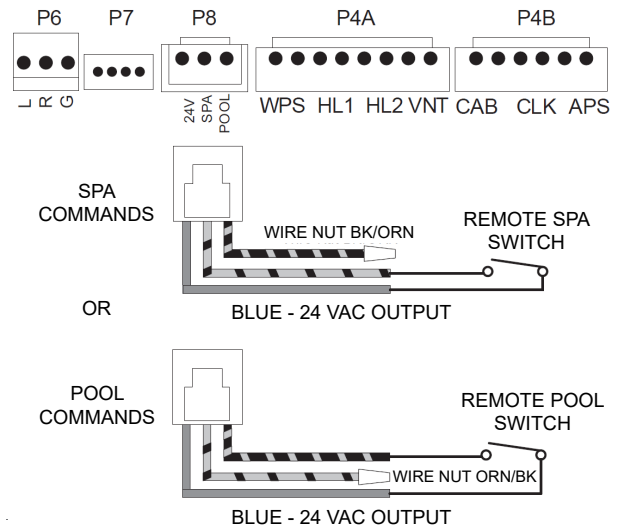

Figure 57. 2-Wire Remote Harness Installation
5. On the "Remote Interface Harness", connect the BLUE wire to one side of the "REMOTE" switch and connect the other side to either the ORANGE/BLACK wire for "SPA" operation or the BLACK/ORANGE wire for "POOL" operation. See **Figure 57**.
7. Install the "3-wire Remote Control Harness" to the P8 connector and turn power "ON" to the heater. See **Figure 57**.
4. On the "Remote Interface Harness" connect the BLUE wire to one side of the "REMOTE" switch and connect the ORANGE/BLACK wire for "SPA" operation and the BLACK/ORANGE wire for the "POOL" operation. See **Figure 57**.